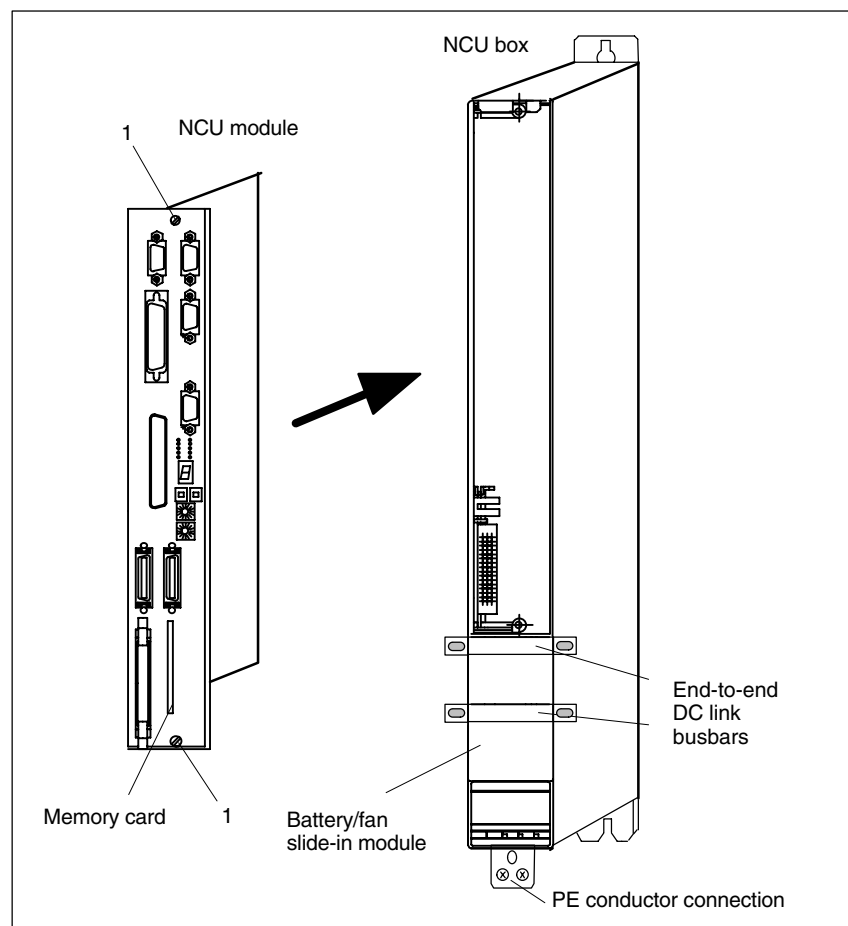

Fig. 3-3 Installation of the NCU module in the NCU box
In order to guarantee the vibration resistance, both slotted screws (1) must be tightened (see Fig. 3-3).